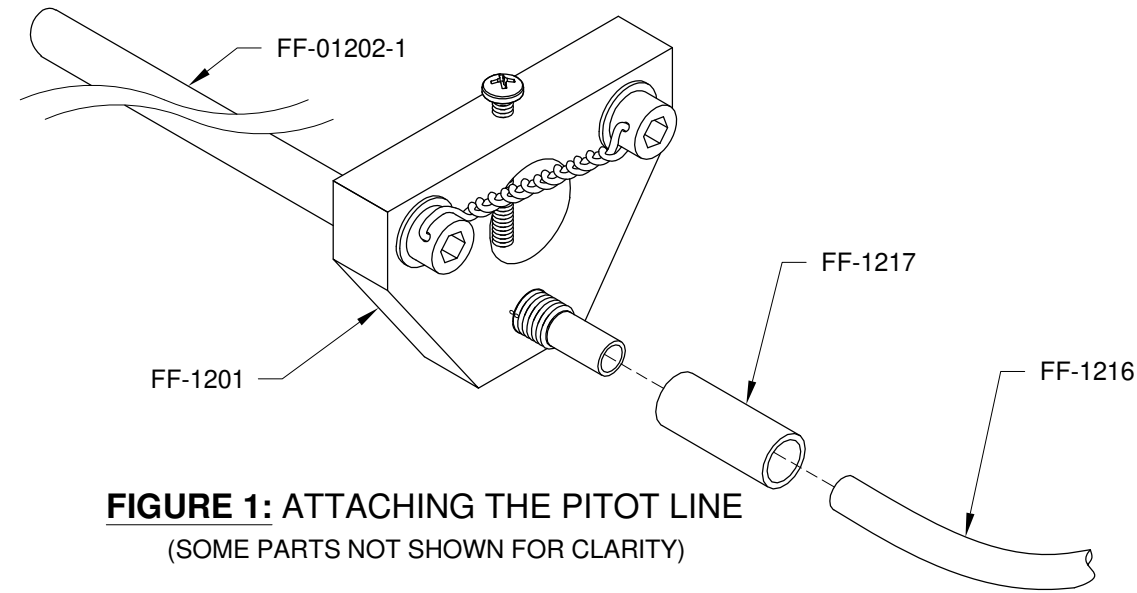

FIGURE 1: ATTACHING THE PITOT LINE
Step 3: Place the FF-1217 over the aft end of the FF-01202-1 and over the FF-1216 as shown in Figures 1 and 2. The FF-1216 and FF-01202-1 should butt against each other.